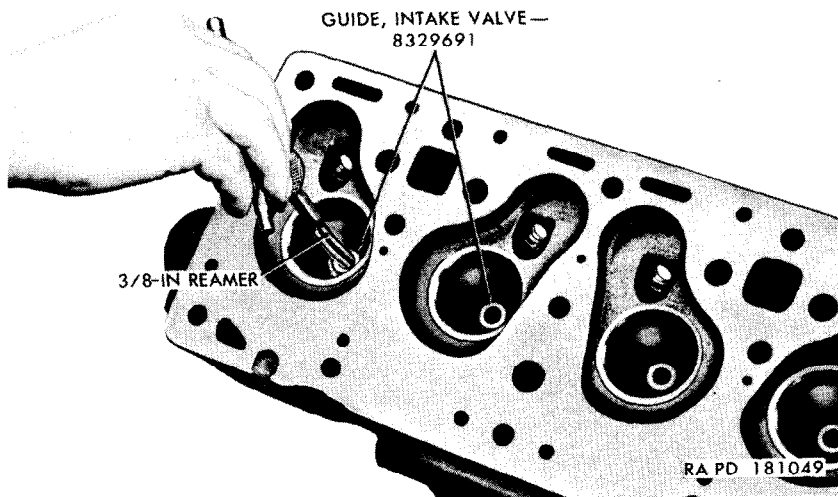

Figure 38. Reaming intake valve guide.
- thicker of the two flat adapters of the remover and replacer 41-R-2379-25 onto the end of the driver and drive the guides into the block until the adapter seats against the top of the cylinder block. When properly positioned, the top (tapered) end of the guide is exactly 1 inch below the level of the top of the block (fig. 29). Run a $\frac{3}{8}$ -inch reamer (fig. 38) through the guides after they have been correctly positioned.
- (6) Use a valve seat grinding tool to grind the exhaust valve seats in the cylinder block just enough to true the seats and to remove pitted or burned areas. Maintain the width of the seats at three thirty-seconds of an inch and not wider than one-eighth of an inch. Upon completion of the valve seat grinding operation, check the valve seats for concentricity. Total, out-of-round of the valve seat, must not exceed 0.002 inch.
- (7) Repair or replace the exhaust valves as instructed in paragraph 87, and then lap them to a perfect seat in the cylinder block exhaust valve seats.
- (8) Force flush the exhaust valves and the cylinder block with cleaning fluid under pressure, or high pressure steam, to
- (d) Run a $\frac{3}{8}$ -inch reamer through each intake valve guide after completion of the installation (fig. 38). Use care to keep the reamer perpendicular to the head.